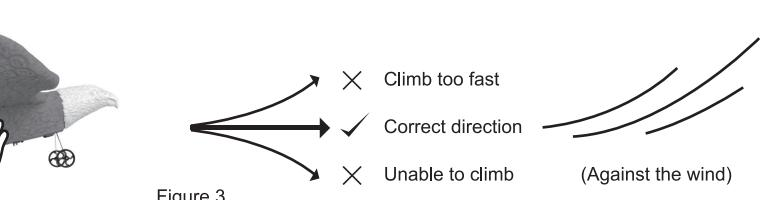

Figure 3
2. Hand throwing off: use the second half of the fuselage to push the throttle, parallel to the direction of the aircraft against the wind thrown into the air, not to tilt the aircraft (see Figure 3).